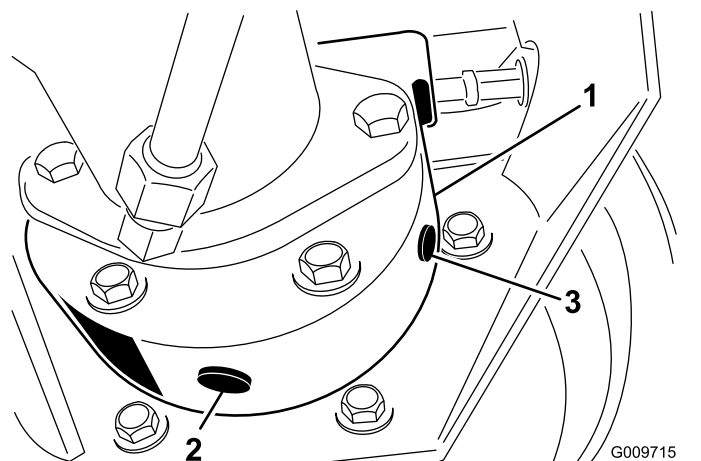

Figure 49
1. Check/drain plug (2)
2. Remove the plug at the 3 o'clock position (Figure 49).
3. Place a drain pan under the brake housing, remove the drain plug, and allow the oil to drain (Figure 49).